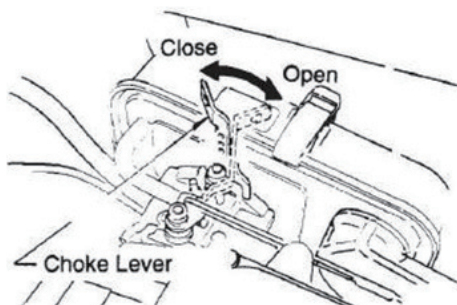

Fig 7
3. Close the choke lever [Fig 7] and move the throttle lever to the **FULL OPEN** position. Turning the choke lever 90 degrees clockwise closes the choke. In cold weather, start the unit with choke fully closed. In warm weather or when the engine is warm, the unit can be started with choke halfway or completely open.
5. If engine fails to start, move the choke lever (Fig 7) to the half open position to avoid flooding.